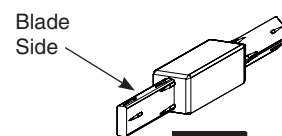

Figure 4
**USE BLADE SIDE OF DOOR MARKER SPINDLE. (FIGURE 4)**